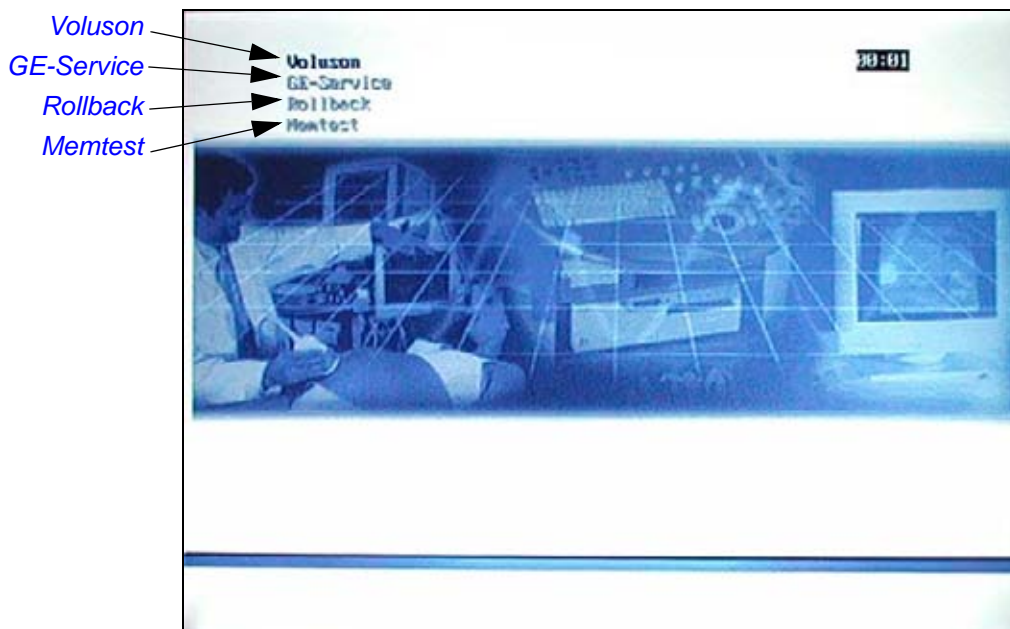

Figure 5-36 Boot screen
- 2.) As soon as the “Boot Screen” appears (see: Figure 5-36 above), press the **PG DN** [Arrow down] key on the keyboard until the **GE Service** item is highlighted, then press **ENTER**.
- 2.) As soon as the "Boot Screen" appears (see: Figure 5-36 on page 5-55), press the **PG DN** [↓ Arrow down] key on the keyboard until the **Rollback** item is highlighted, then press **ENTER**.